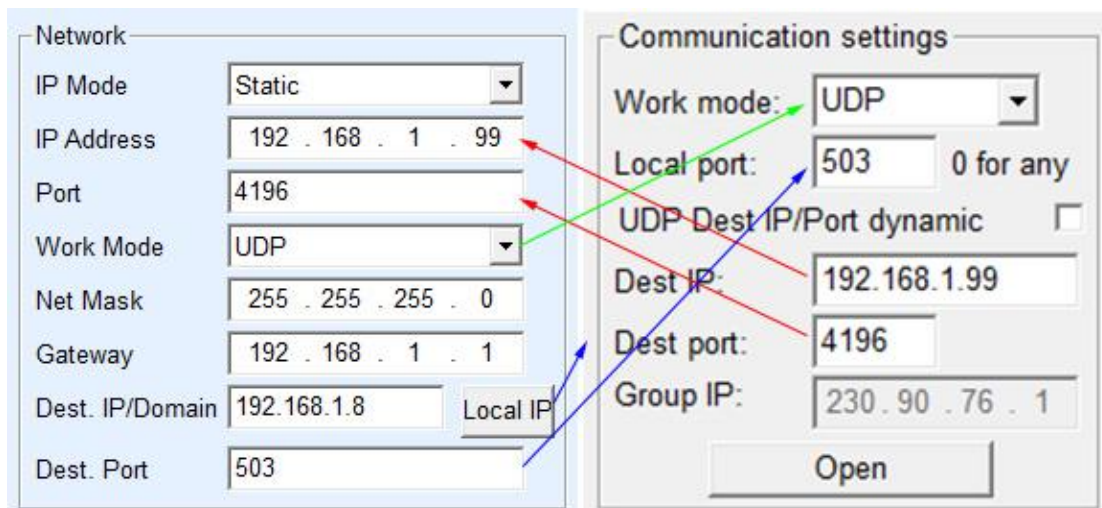

Figure 24 UDP mode parameter configuration
When the serial port server is the Client, there must be three corresponding relationships, as shown in figure 24. 1) working mode correspondence: the working mode of the serial port server is the Server mode corresponding to the Client mode of the network tool; 2) IP address correspondence: the destination IP of the serial port server must be the IP address of the computer on which the network tool is located; (3) port correspondence: the destination
In UDP mode, the parameter configuration is shown in figure 24. The left side is the configuration of the serial port server in ZLVircom, and the right side is the setting of the network debugging tool SocketDlgTest. First, both must be UDP working modes. In addition, as indicated by the red arrow, the destination IP and destination port of the network tool must point to the local IP and port of the serial server. As indicated by the blue arrow, the destination IP of the serial port server must be the IP address of the computer where the network tool is located, while the destination port of the serial port server must be the local port of the network debugging tool. Only when these network parameters are configured the two-way UDP data communication can be guaranteed.